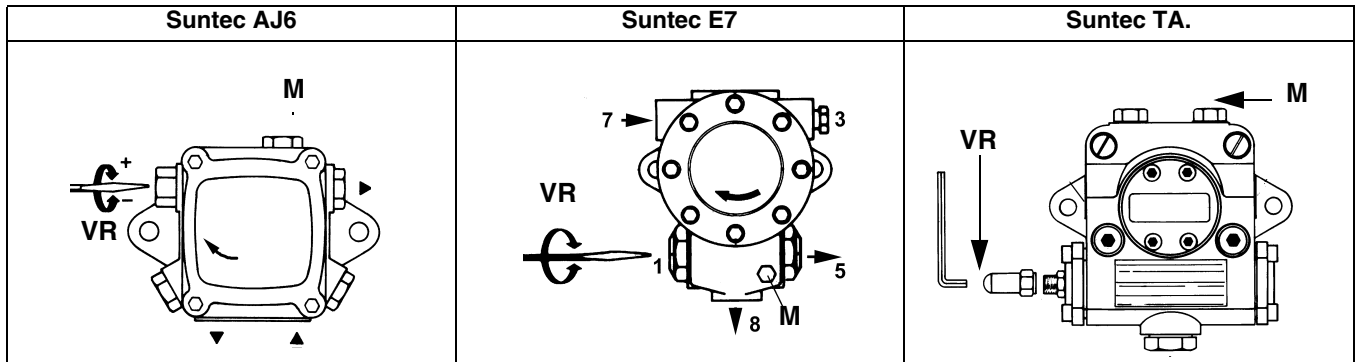

Fig. 37
- bleed the air from the **M** pressure gauge port (Fig. 37) by loosening the cap without removing it, then release the contactor.